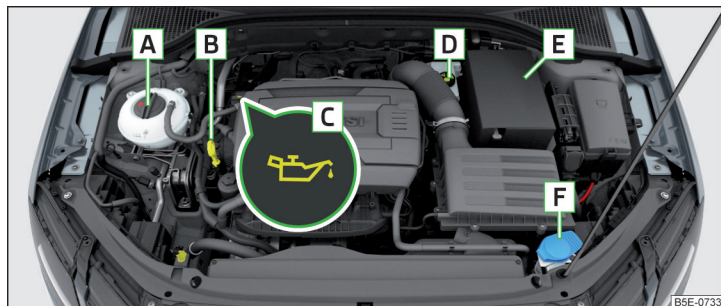

Fig. 308 Arrangement example in the engine compartment
- › Unscrew the cap of the engine oil filler opening **C** » Fig. 308 on page 274.